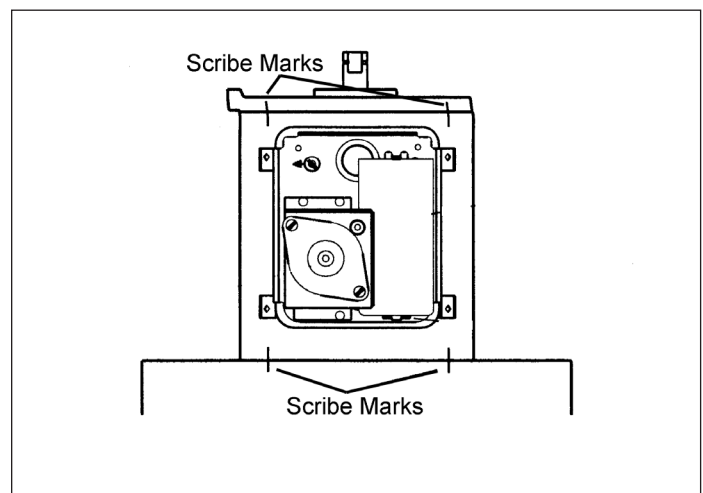

Figure 32. Scribe Marks on Lower End Frame
7. Place scribe marks on upper end bell assembly to align with terminal mounting bracket holes on stator (Figure 32).
4. Align mounting bracket holes on new stator with scribe marks on upper end bell assembly (Figure 32). Gently tap stator into place on upper end bell assembly.